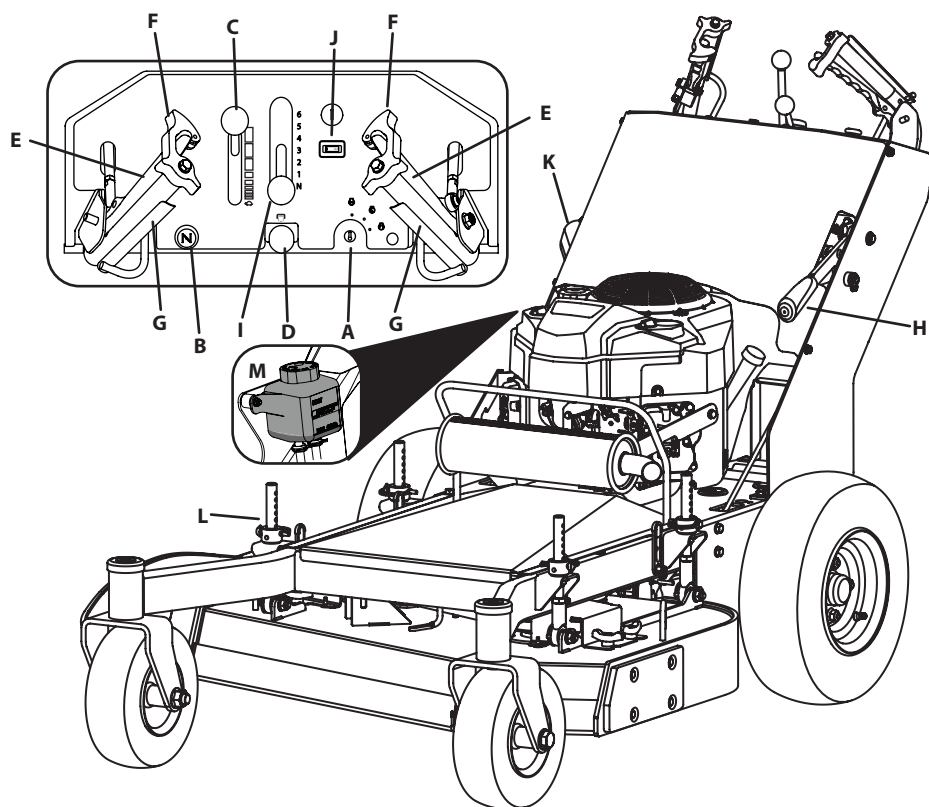

Figure 3
- a. Move the speed control lever (see I in Figure 3 on page 8) forward to about one third of full speed (position 2) until you are fully familiar with the operation of the mower.